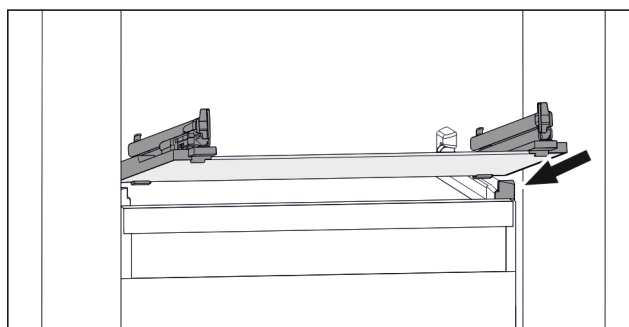

Fig. 119 Example illustration of glass shelf
- ▶ Position glass shelf at an angle behind the stoppers. (see Fig. 119)